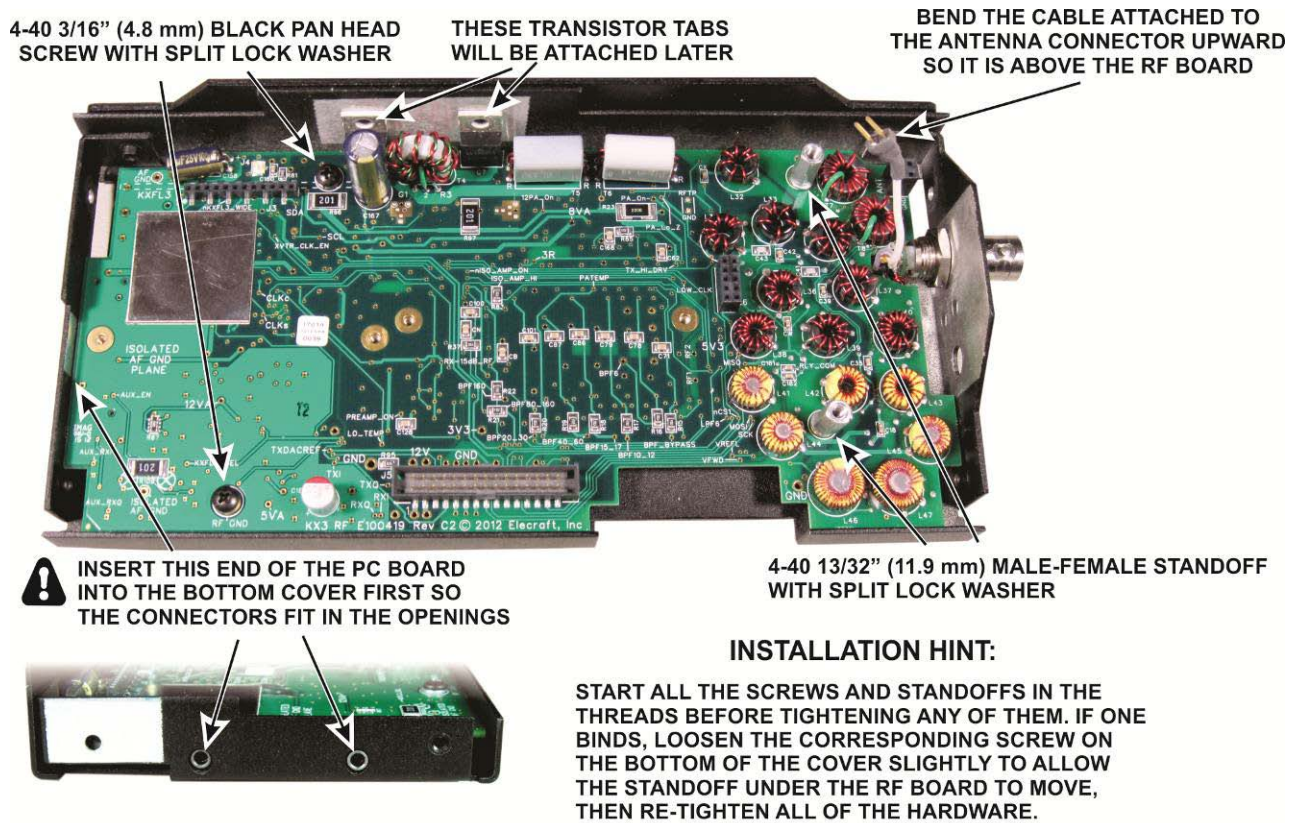

Figure 43. Installing RF Board in the Bottom Cover.
□ Bend the wire attached to the antenna connector upward so it will be above the RF board after it is installed. Place the RF board in the bottom cover as shown in Figure 43. Put the end of the board with the shield into the bottom cover first so the connectors on the bottom of the board fit into the openings in the end of the cover. Bend the lead to the antenna connector up as shown. When the board is lying flat against the standoffs secure it with the hardware shown.